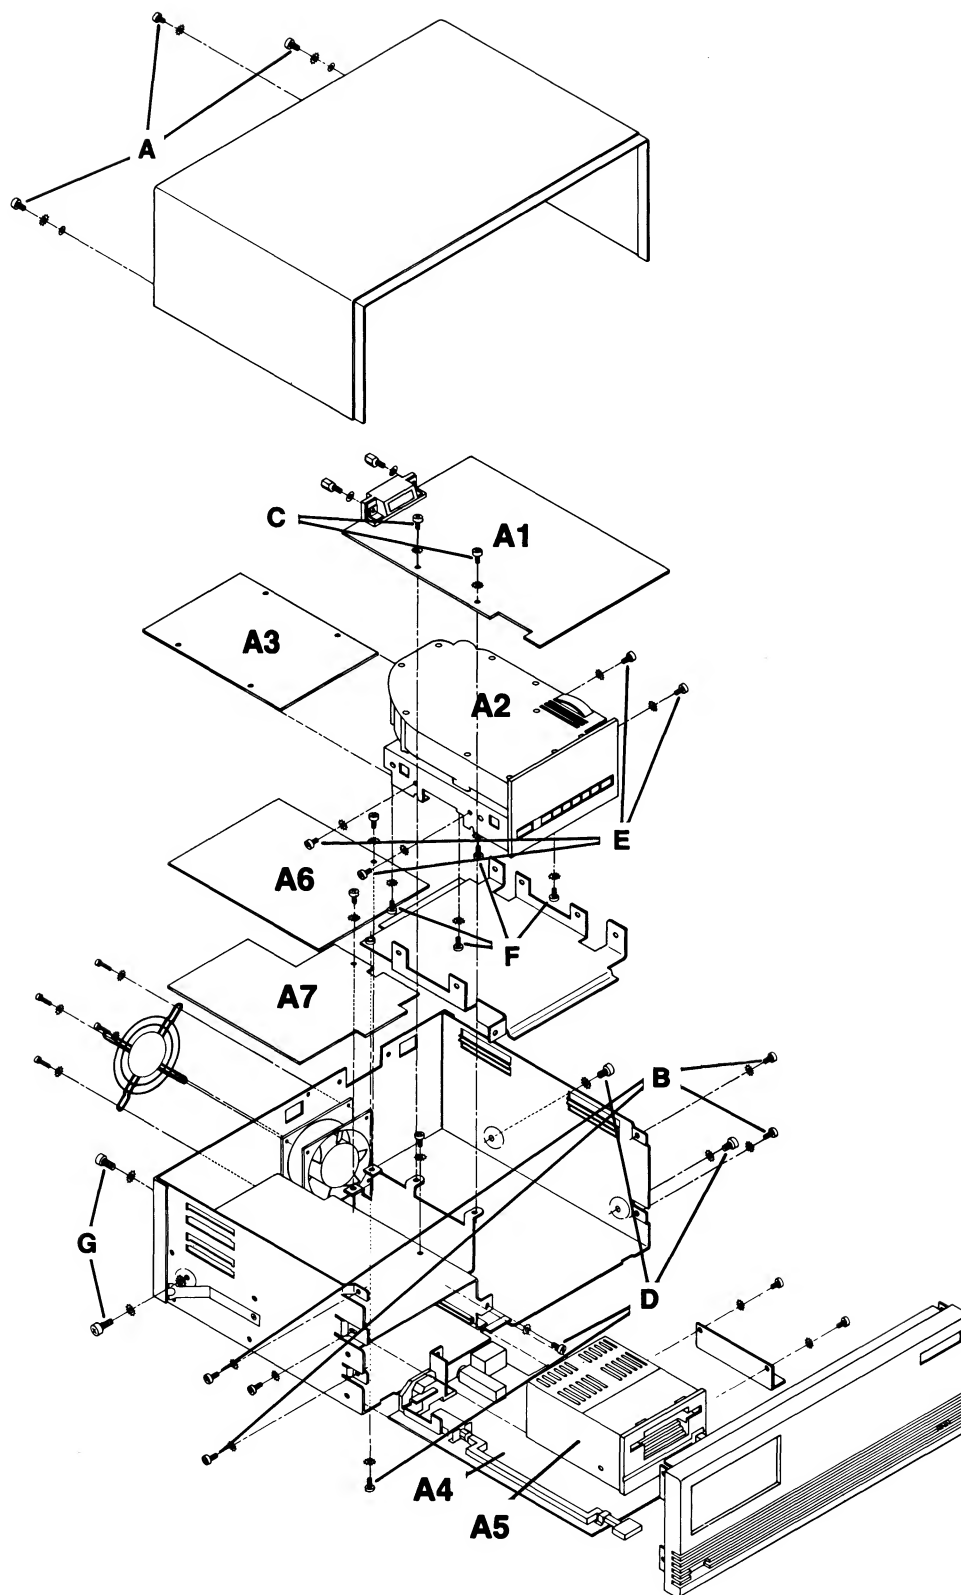
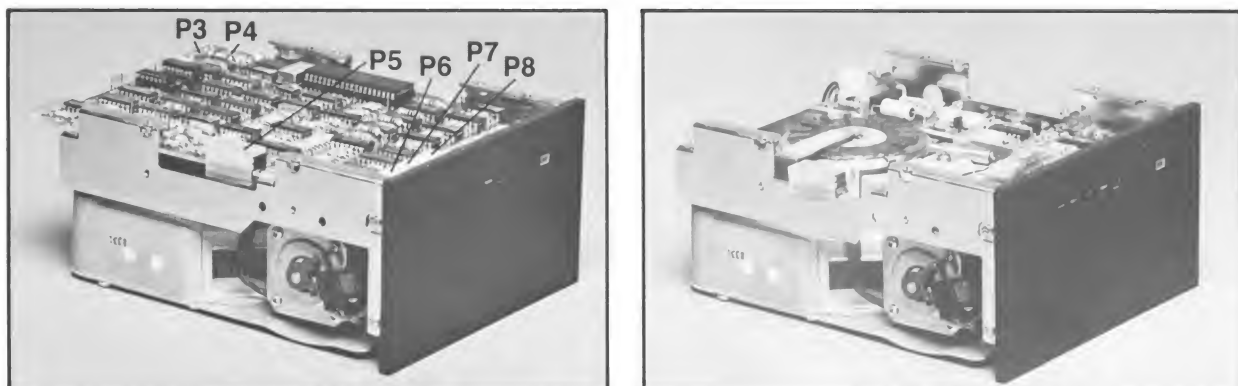

Figure 2-1. The 9133V/XV Exploded View
Figure 2-7. Drive Electronics PCA Removal
The Top Cover Assembly consists of an injection molded plastic shroud and a steel shield shroud. To remove the assembly, remove three screws on the rear of the disc memory (marked "A" in Figure 2-1.)
2. Remove two mounting screws (labelled "C" in Figure 2-1) from the left side of the board.
1. Remove four mounting screws marked "D" on Figure 2-1. Two screws are located on the lower right side of the chassis, an other on the front mounting tab, and the fourth from the bottom.
3. Turn the Drive Assembly upside down. Remove four screws (marked "E" in Figure 2-1) from the sides of the assembly; lift off the mounting bracket.
3. Remove four screws labelled "F" in Figure 2-1. Carefully slide the board to the rear of the box frame and clear of the Drive Assembly. See Figure 2-7.
1. Remove two screws marked "G" in Figure 2-1. One is on the left side of the chassis, and the other is on the rear of the chassis.